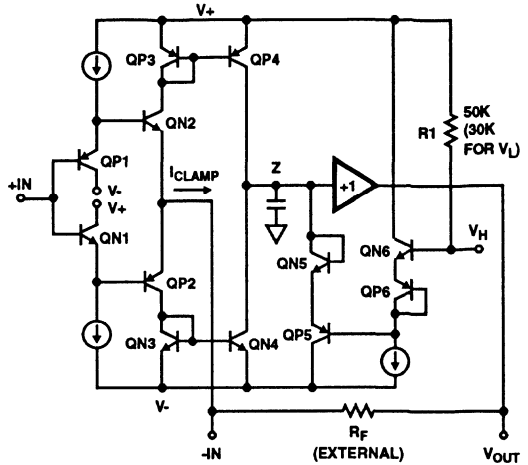

FIGURE 1. HFA1130 SIMPLIFIED V_H CLAMP CIRCUITRY
Figure 1 shows a simplified schematic of the HFA1130 input stage, and the high clamp (V_H) circuitry. As with all current feedback amplifiers, there is a unity gain buffer (QX1 - QX2) between the positive and negative inputs. This buffer forces $-IN$ to track $+IN$, and sets up a slewing current of $(V_{IN} - V_{OUT})/R_F$. This current is mirrored onto the high impedance node (Z) by QX3-QX4, where it is converted to a voltage and fed to the output via another unity gain buffer. If no clamping is utilized, the high impedance node may swing within the limits defined by QP4 and QN4. Note that when the output reaches its quiescent value, the current flowing through $-IN$ is reduced to only that small current ($-I_{BIAS}$) required to keep the output at the final voltage.
The clamped output voltage will not be exactly equal to the voltage applied to V_H or V_L . Offset errors, mostly due to V_{BE} mismatches, necessitate a clamp accuracy parameter which is found in the device specifications. Clamp accuracy is a function of the clamping conditions. Referring again to Figure 1, it can be seen that one component of clamp accuracy is the V_{BE} mismatch between the QX6 transistors, and the QX5 transistors. If the transistors always ran at the same current level there would be no V_{BE} mismatch, and no contribution to the inaccuracy. The QX6 transistors are biased at a constant current, but as described earlier, the current through QX5 is equivalent to I_{CLAMP} . V_{BE} increases as I_{CLAMP} increases, causing the clamped output voltage to increase as well. I_{CLAMP} is a function of the overdrive level $(V_{IN} - V_{OUT\ clamped})$ and R_F , so clamp accuracy degrades as the overdrive increases, or as R_F decreases. As an example, the specified accuracy of $\pm 60mV$ for a 2X overdrive with $R_F = 510\Omega$